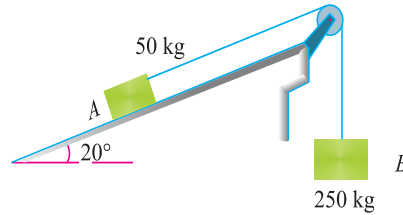

Fig. 25.20.
1. Fig. 25.20 shows two masses connected by a light inextensible string passing over a smooth pulley.